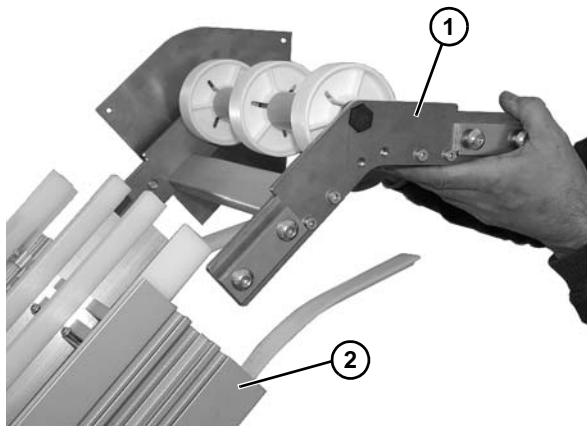

Figure 112
9. Remove upper knuckle assembly (Figure 112, item 1), from frame (Figure 112, item 2).